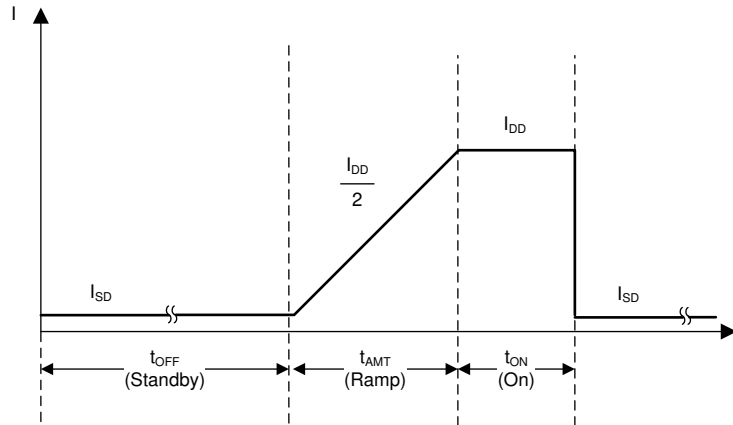

図 7-7. LDC0851 Supply Current vs. Time During Duty Cycle Operation
In order to achieve 10 year lifetime out of a single CR2032 battery, the enable pin (EN) of the LDC0851 can be duty cycled to achieve a low average supply current. Refer to Figure 7-7 to see the three different states of LDC0851 supply current during duty cycle operation. The sum of the Standby, Ramp, and On currents can be used to calculate the average supply current of the LDC0851, which needs to be below 2.5 μA to achieve a 10 year lifetime from a 220 mAh CR2032 battery.